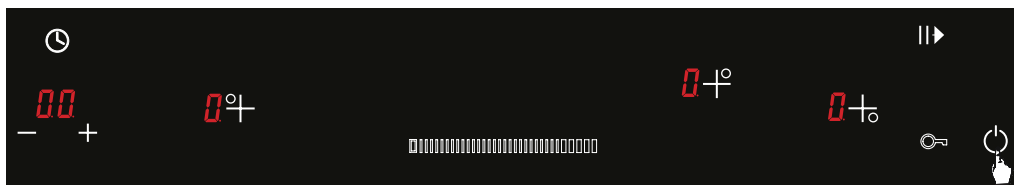

Figure 6
1.  It may be turned off by pressing the XX key. (See Fig. 6)